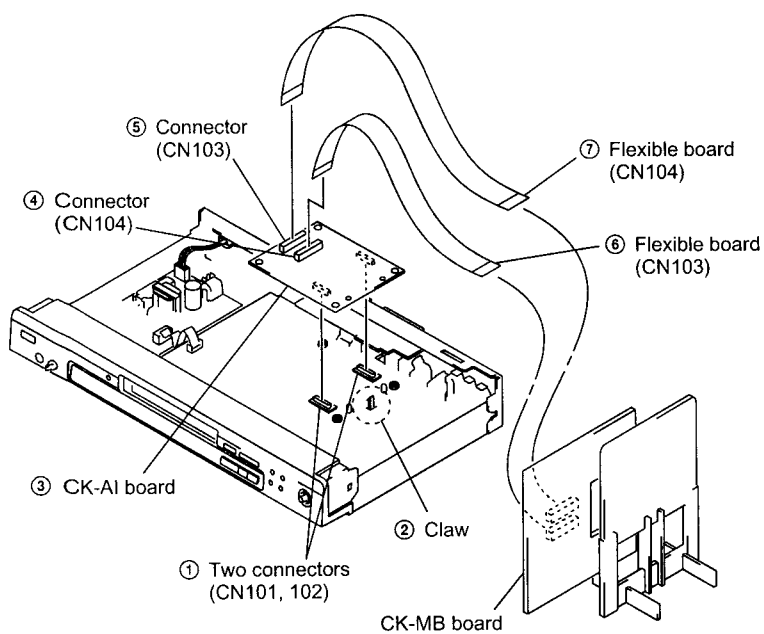

Fig. 5
7) Set the CK-AI board as shown in Fig. 5.